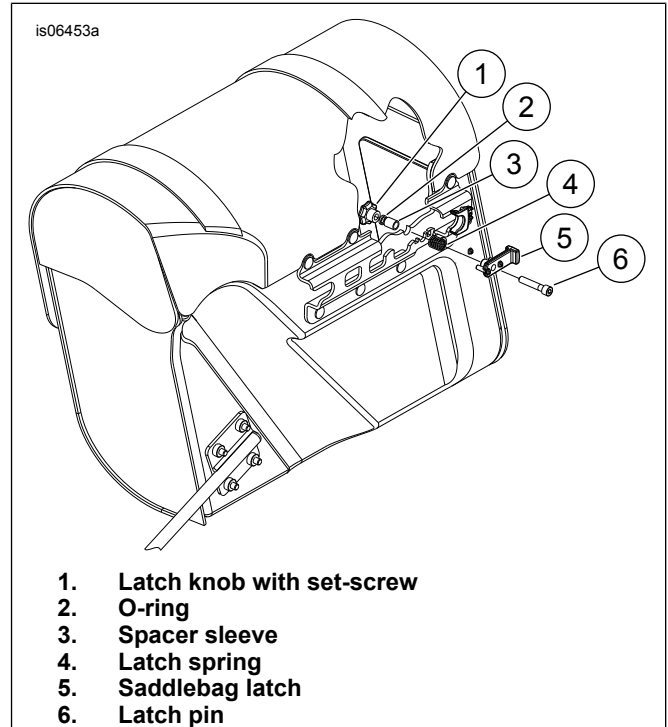

Figure 5. Saddlebag Latch Assembly
- See Figure 5. Unlock and unclip the saddlebag lid and open the saddlebag.
- Pull on knob (1) located in upper rear corner inside saddlebag. Rotate knob toward rear of saddlebag (clockwise for left side saddlebag, counterclockwise for right side saddlebag).